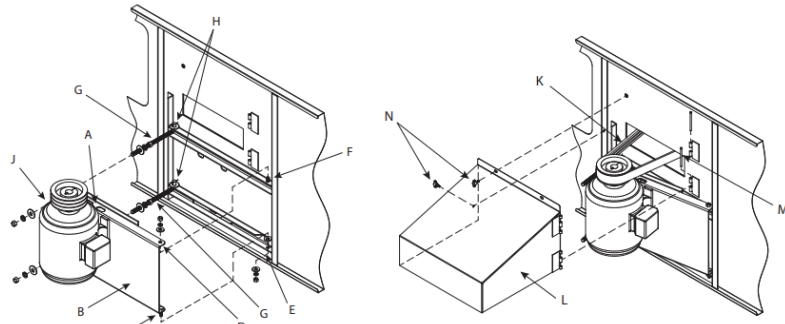

Figure 20a – External Motor Installation **Figure 20b** – Motor Guard and Power-Band Belt Installation
All units narrower than 10' (3m) wide have their motors installed outside the unit in a shaft up configuration as shown in figures 20a and 20b below. Due to shipping width restrictions, these motors cannot ship mounted on the units since they would extend past the width of the truck. For this reason, the motor(s), motor base(s), motor guard(s), "J" bolts, pivot pins and belt(s) are shipped in the cold-water basin of the cooling tower. Please follow the step-by-step instructions below to properly install these components.
1. Study Figure 20a above before installing the motor base on the unit.